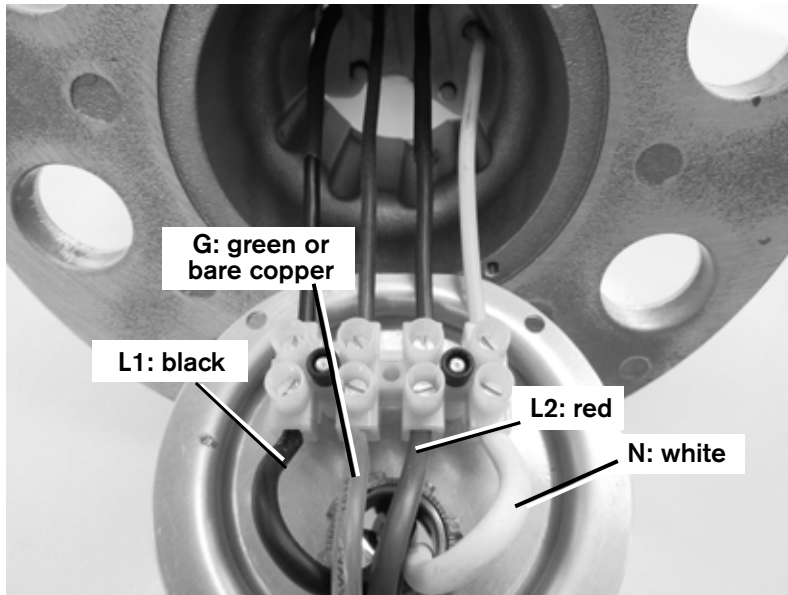

Fig. 6 240/208V Yaw wiring (USA Wiring Depicted, connect Red to Red, Black to Black)
- Connect each of the tower wires to the terminal block as shown in the accompanying photo. Tighten the terminal block screws to 23-25 in lb (2.5-2.8 N·m). See Figure 6 or 7, as appropriate.